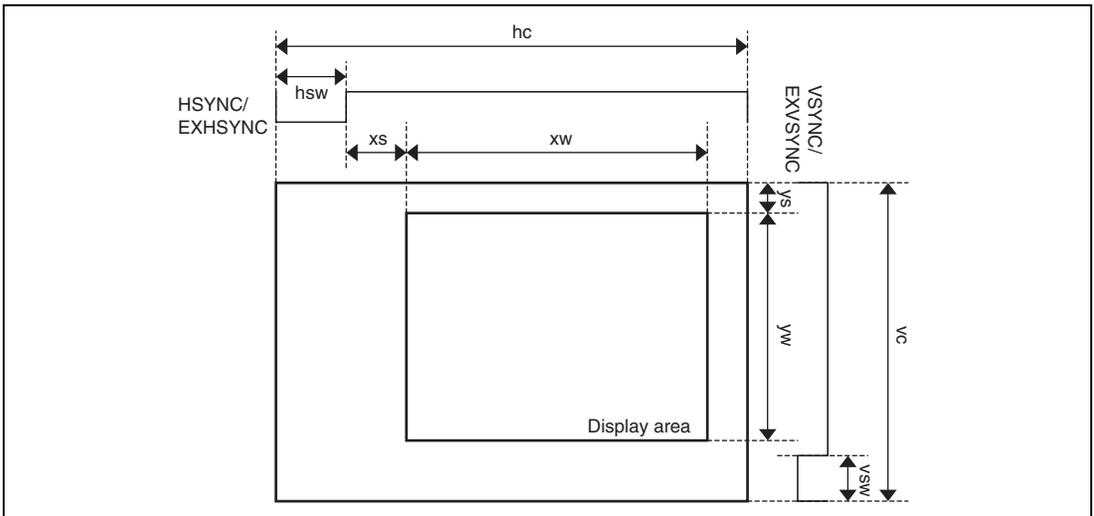

Figure 23.13 Display Timing Generation for Horizontal Direction and Vertical Direction of Display Screen
In the display unit (DU), display timing is generated for the horizontal direction and vertical direction of the display screen. Display timing is set by using display timing generation registers in section 23.2.2. Figure 23.13 shows the display timing in non-interlaced mode. Here, the display screen is defined in terms of the variables of table 23.12.